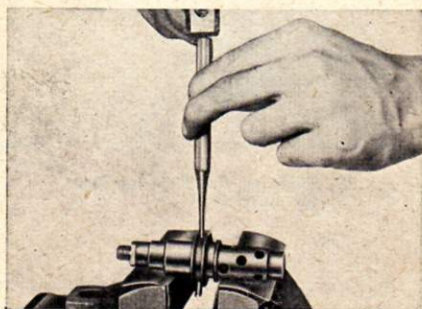

Fig. 38 Tapping out dowel pin from the draw key and the gearshift sleeve VI / 56 / 2167
1. Tap the dowel pin out of the gear sleeve and the draw key with a 4 mm punch, as illustrated in fig. 38.